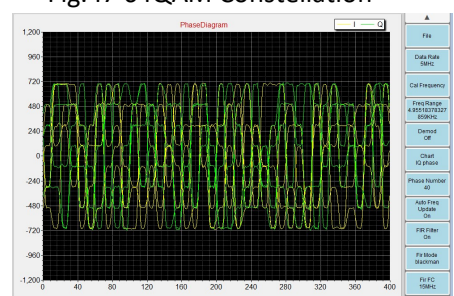

Fig.50 64QAM I&Q phase
- **I&Q Phase:** Select *I&Q Phase* to view the I and Q phase trajectories (see Fig. 50). This chart helps verify symbol transitions and phase alignment across the 64-QAM constellation.